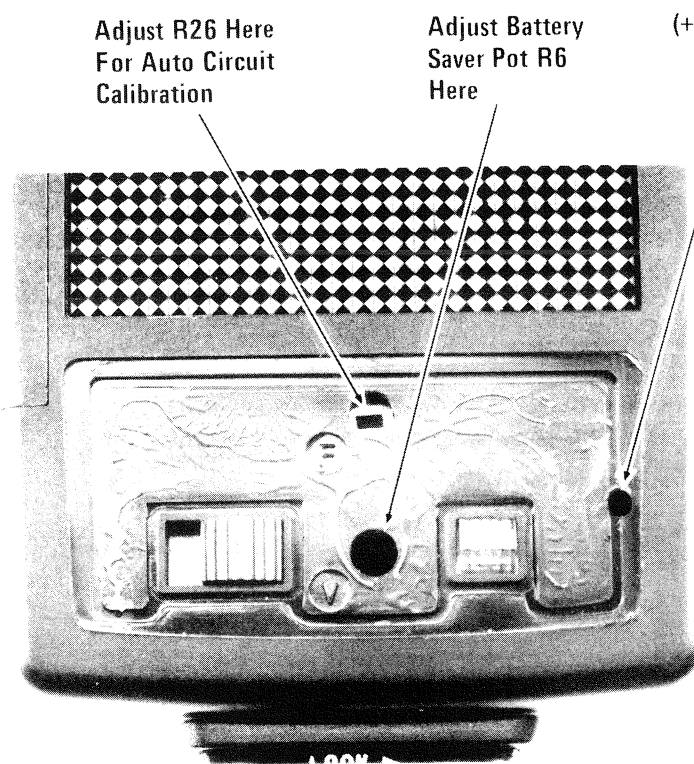

Figure 4-1. Adjustment Points Auto and Battery Saver Circuits
4.2.4 EXTERNAL CHECK AND ADJUSTMENT OF MAIN CAPACITOR VOLTAGE. Main capacitor C1 voltage can be checked and adjusted without opening the unit. Remove nameplate at rear of body case by lifting off with thin blade. If it does not come off readily, apply low heat. To check the main capacitor voltage, insert a long-pointed positive meter probe into the small hole at the right edge of the exposed area and touch the negative probe against the negative pin of the AC receptacle. Voltage should read approximately 320V with the Simpson Digital Multimeter, Model 464. See Figure 4-1 and 4-2.
If voltage is too low, adjust battery saver pot R6 through hole "V" by turning clockwise. If voltage is higher than specified, reduce by turning R6 counterclockwise (Fig. 4-1). If voltage cannot be brought up to 320V by adjusting R6, check out unit according to No. 5B of Troubleshooting Guide, Section 4.4.
Adjust the auto modes by turning pot R26 (at hole "F"). To lower lux/sec reading, turn counterclockwise, to raise, clockwise. (Fig. 4-1)